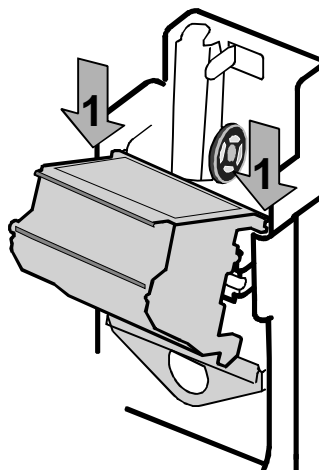

Figure 4-13: Align pins with slots on the swing arm
- 4 Align the printhead cartridge pins with the printhead cartridge slots on the swing arm (see Figure 4-13).
- 5 Slide the new printhead cartridge onto the swing arm, so the pins slide into the slots (see Figure 4-13).